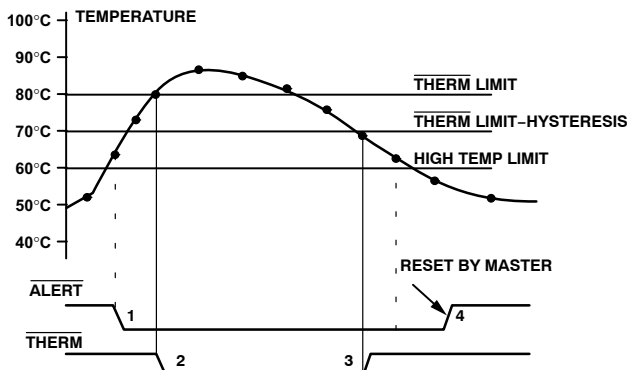

Figure 19. Operation of the  $\overline{\text{ALERT}}$  and  $\overline{\text{THERM}}$  Interrupts
Figure 19 shows how the  $\overline{\text{THERM}}$  and  $\overline{\text{ALERT}}$  outputs operate. A user may wish to use the  $\overline{\text{ALERT}}$  output as a  $\overline{\text{SMBALERT}}$  to signal to the host via the SMBus that the temperature has risen. The user could use the  $\overline{\text{THERM}}$  output to turn on a fan to cool the system, if the temperature continues to increase. This method would ensure that there is a fail-safe mechanism to cool the system, without the need for host intervention.
- The  $\overline{\text{THERM}}$  output de-asserts (goes high) when the temperature falls to  $\overline{\text{THERM}}$  limit minus hysteresis. In Figure 19, the default hysteresis value of 10°C is shown.